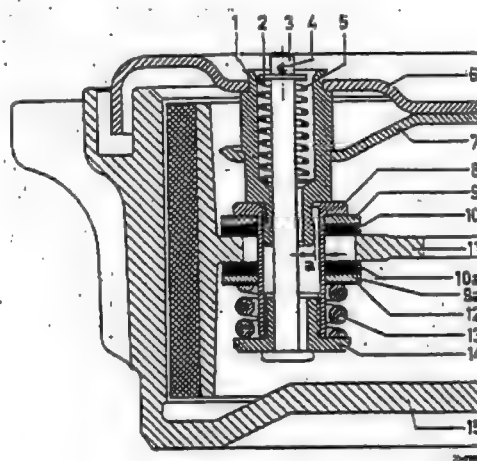

Fig. 42-9/14
Note: Since the cotter pin (4) is difficult to get at, the guide pin can be installed the opposite way. The guide pin is now installed from behind and the cotter pin with the washer is put on from the front (Fig. 42-9/14).
4. Unscrew the hexagon screw (1) for the brake shoe attachment from the anchor pin (9), and remove together with the lock washer, the washer (2) and brass washer (3) (Fig. 42-9/15).